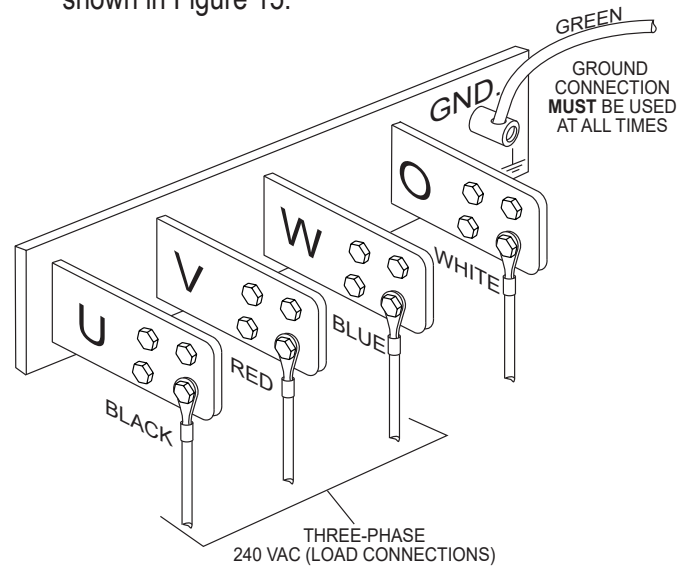

Figure 15. UVWO Terminal Lugs (3-Phase 240-Volt Connections)
2. Connect the load wires to the UVWO terminals as shown in Figure 15.